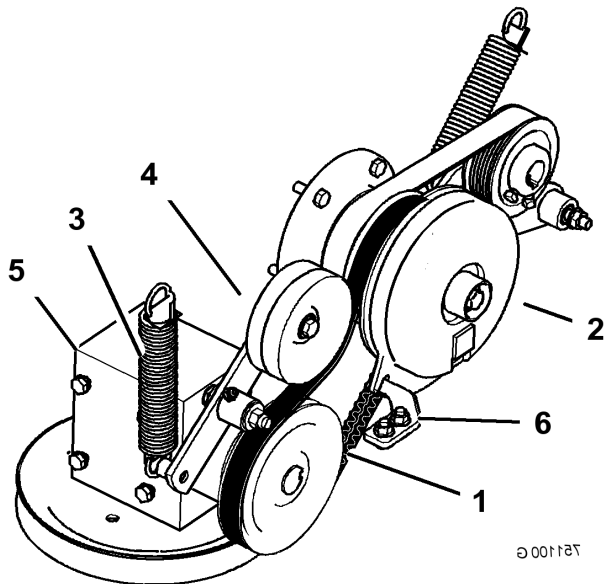

Figure 57
4. Remove the spring from the idler arm (Figure 57).
7. Install the PTO drive belt around the clutch pulley and the gearbox pulley (Figure 57).
9. Install the spring to the idler arm (Figure 57).